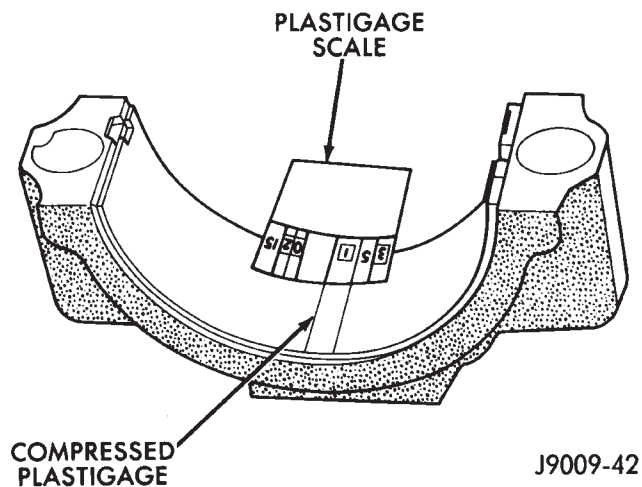

Fig. 19 Measuring Bearing Clearance with Plastigage
(5) Install the lower bearing insert in the bearing cap. The lower insert must be dry. Place strip of Plastigage across full width of the lower insert at the center of bearing cap. Plastigage must not crumble in use. If brittle, obtain fresh stock.
(6) Install bearing cap and connecting rod on the journal and tighten nuts to 45 N·m (33 ft. lbs.) torque. DO NOT rotate crankshaft. Plastigage will smear, resulting in inaccurate indication.
(7) Remove the bearing cap and determine amount of bearing-to-journal clearance by measuring the width of compressed Plastigage (Fig. 19). Refer to Engine Specifications for the proper clearance. **Plastigage should indicate the same clearance across the entire width of the insert. If the clearance varies, it may be caused by either a tapered journal, bent connecting rod or foreign material trapped between the insert and cap or rod.**